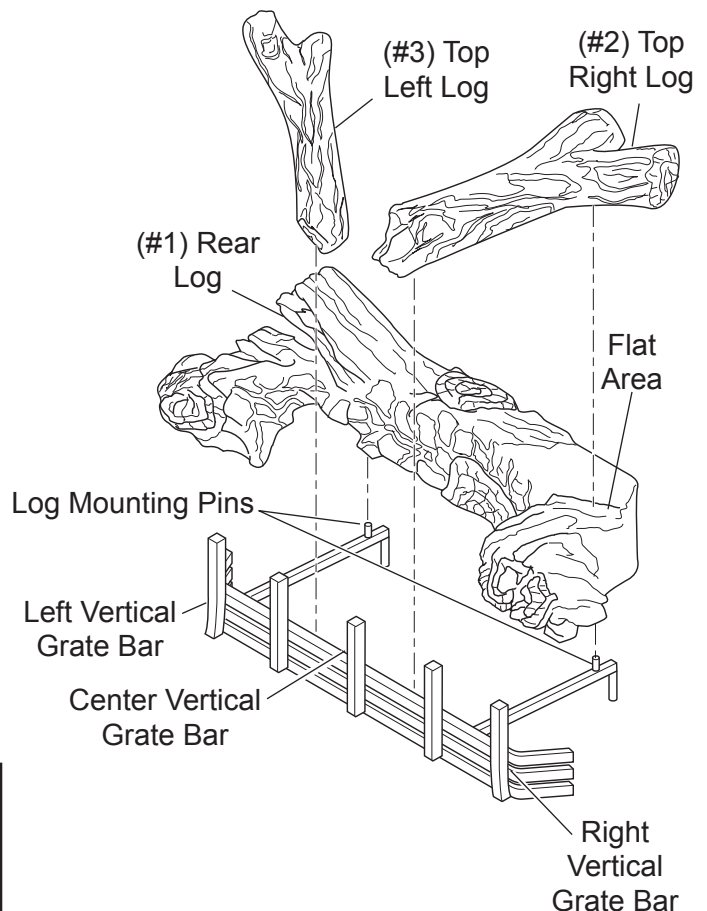

Figure 22 - Log Placement (BDV300, 400 shown)
1. Place rear log (#1) on grate assembly. Log should rest firmly on the two log mounting pins on the horizontal bars. *See Figure 22.*
2. Place top right log (#2) on the rear log. Rest the right back side of the log in the flat area of the rear log. Place the narrow front end of the log next to the center vertical grate bar. *See Figure 22.*
3. Place the top left log (#3) on the rear log. Nest the forked end of the top left log into the fork or the rear log. Rest the narrow end of the top left log behind the center vertical grate bar. *See Figure 22.*